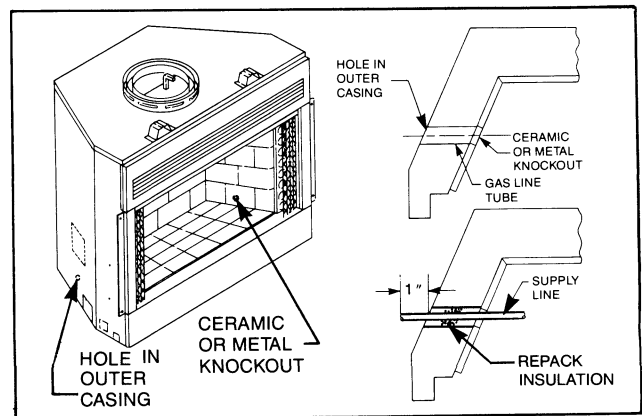

Fig. 28. Install iron pipe gas line through provided hole in either side of fireplace.
Locate the gas line hole in the outer casing of the fireplace and remove the insulation from the gas line tube. (Refer to Fig. 28).
NOTE: The gas pipe should not come in contact with any wood structures until it has reached a point at least one (1) inch away from the fireplace side. (See Fig. 28 for installation clarification.)